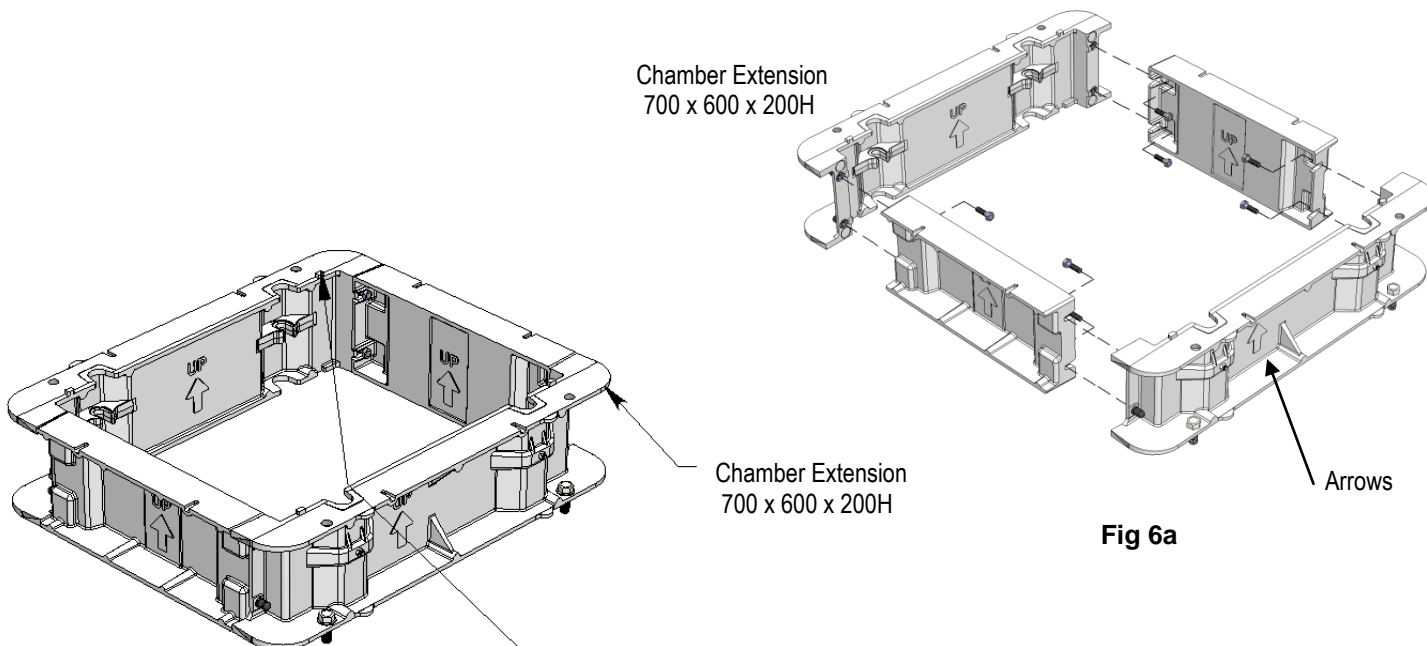

Fig 6a
6. Assemble **chamber extension** as per Fig. 6a using 8 - M10 x 30 bolts and washers supplied. Place on top of chamber flange. See arrows for right way up.